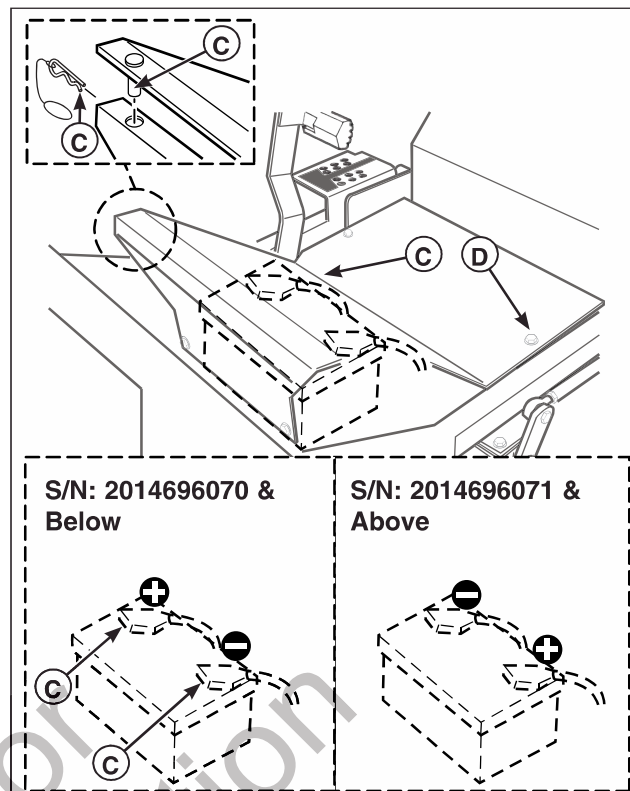

Figure 28. Battery Compartment
1. **(CE Models Only):** Loosen and remove the floor pan retaining bolt (D, Figure 28).
2. **(All Models: 2014696070 & Below):** Tilt the left side of the floor pan (C) up so that the locking pins clear the holes in the frame. Slide the floor pan to the left until it stops.